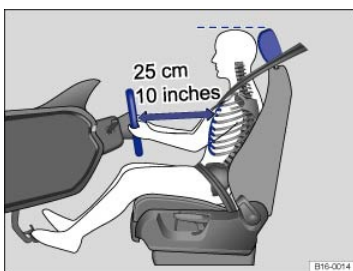
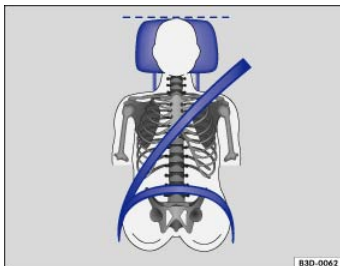

Fig. 34 The driver should never sit closer than 10 inches (25 cm) from the steering wheel.
Fig. 35 Proper safety belt positioning and head restraint adjustment.
- Adjust head restraints so that the upper edge of the head restraint is at least at eye level or higher. Position the back of your head as close as possible to the head restraint ⇒ Fig. 34 and ⇒ Fig. 35.
- Adjust the steering wheel so that there are at least 10 inches (25 cm) between the steering wheel and your breast bone ⇒ Fig. 34. When adjusting the proper distance to the steering wheel, grasp the top of the steering wheel with your elbows slightly bent.